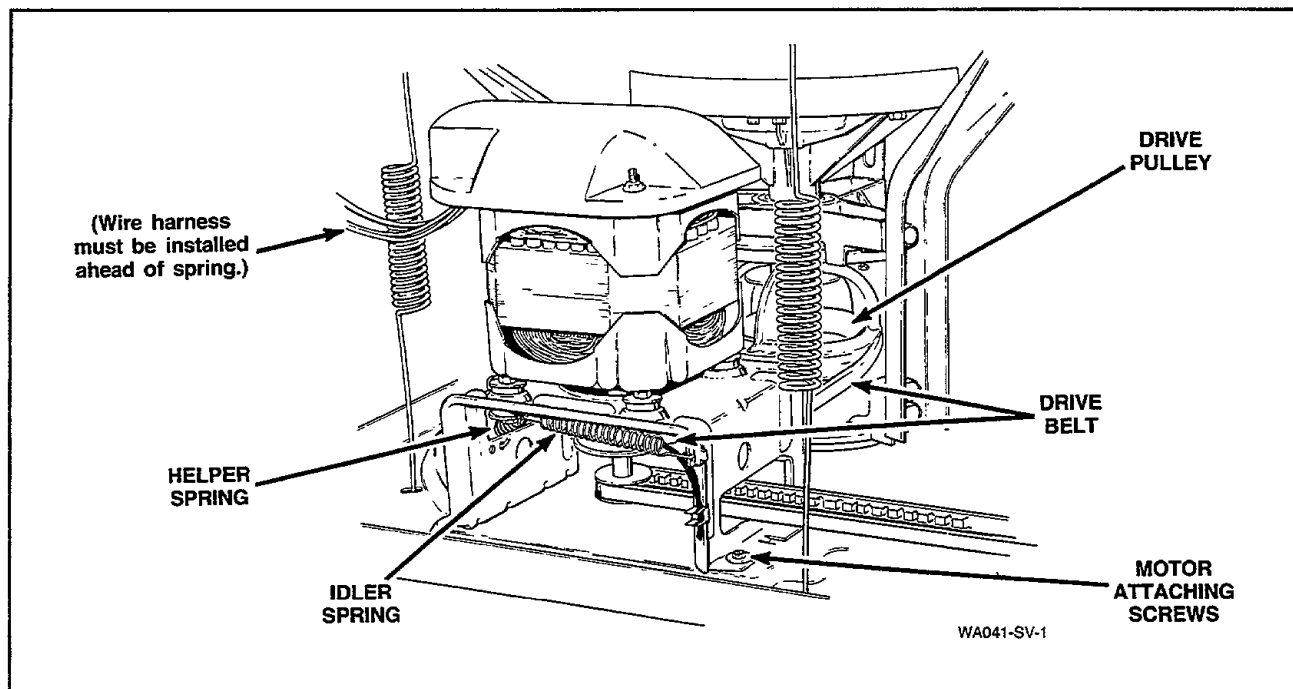

Figure 23
- While holding the idler lever, reach in and around the right side of the motor and run the belt off the right side of the large drive pulley, *Figure 23*.